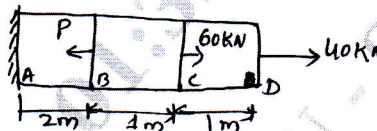

Fig.Q2(c)
- c. Determine the magnitude of the load "P" necessary to produce zero net change in the length of the straight bar shown in Fig.Q2(c). $A = 400 \text{ mm}^2$.